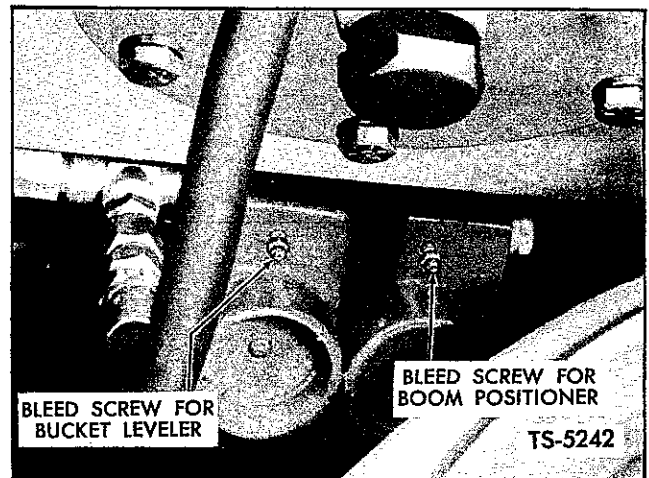

Fig. 19. Bleed Boom Positioner Lines at Control Valve
3. Bleed master cylinder and lines with pressure tank containing Type "A" Automatic Transmission Fluid. Connect tank line to master cylinder fill plug in similar manner as for bucket leveler. Crack bleed screw at boom spool of boom and bucket control valve as shown in Figure 19.